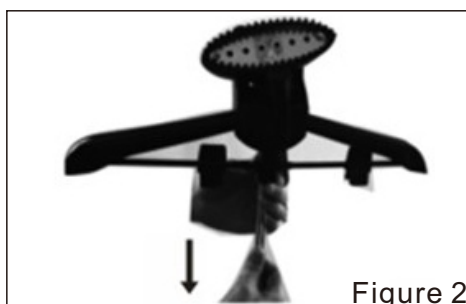

Figure 2
③ Install the vapor nozzle and the clothes hook and hanger downward, in the direction as shown in Figure 2.